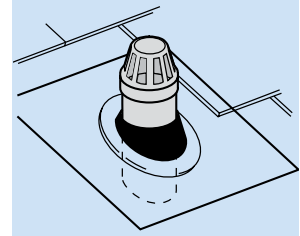

Fig. 56
- Slide 149 Weathering Slate over stack (Fig. 56).